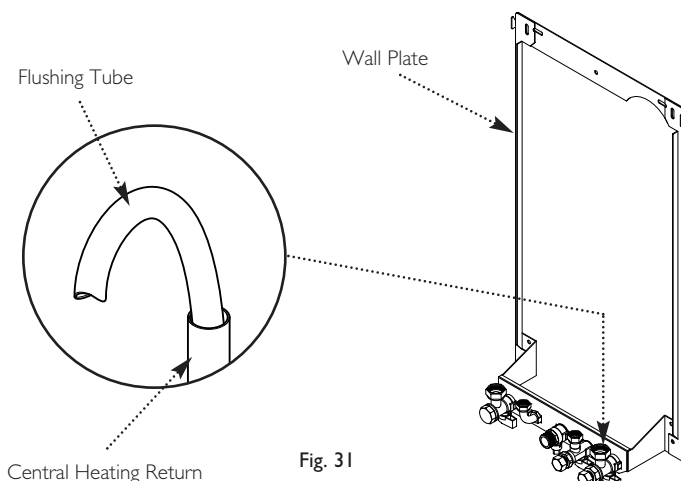

Fig. 31
1. Connect a tube to the central heating flow or return pipe (Fig. 31).